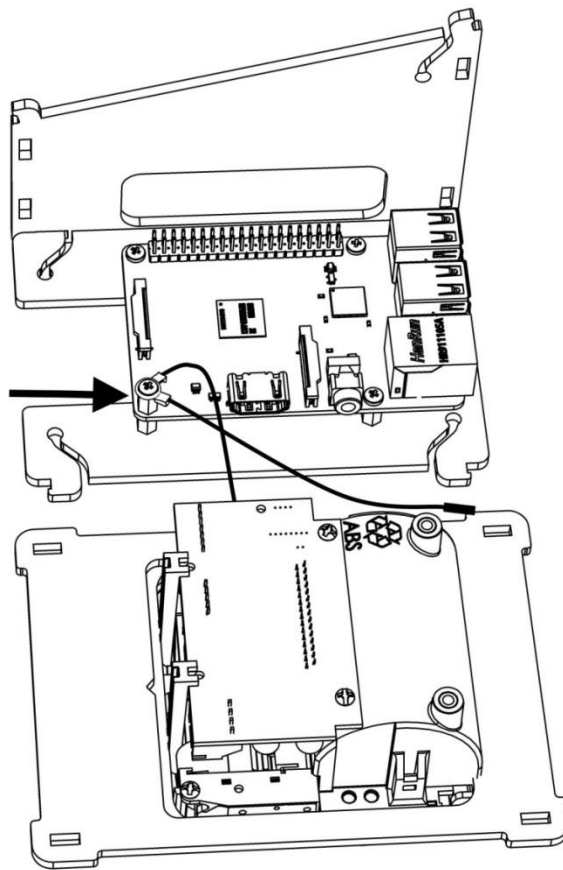

Figure 6
- 11) Using 1x M2.5x6 screw, attach both the printer earth strap eyelet and the grounding wire to the hex stand-off at the front right of the unit as shown in Figure 6.